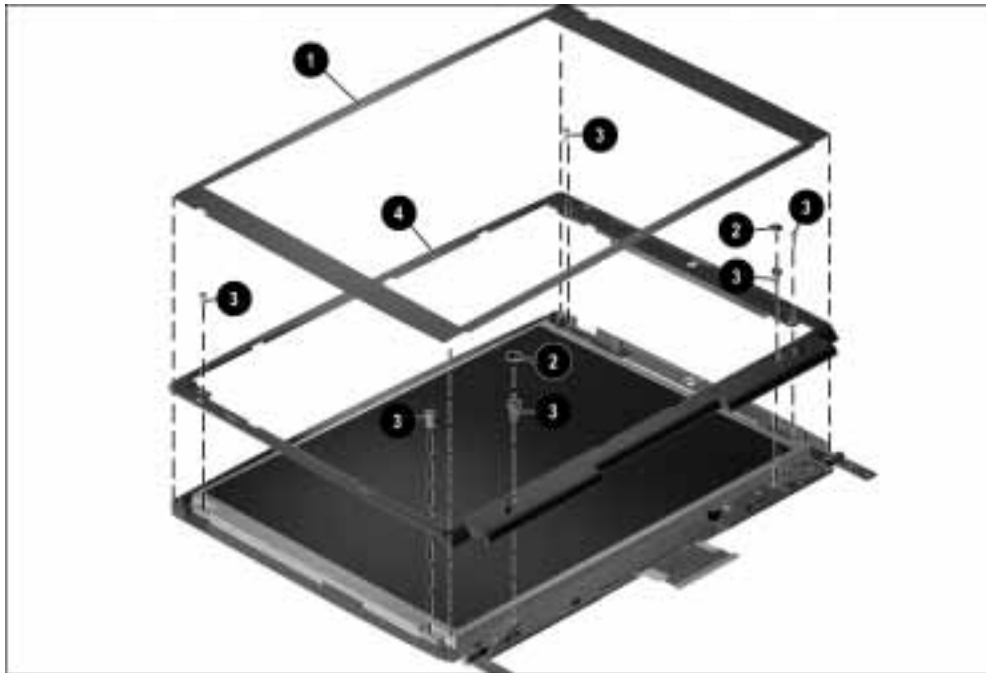

Figure 5-36. Removing the Display Overlay And Bezel
4. Peel off the adhesive-backed overlay **1** (Figure 5-36).